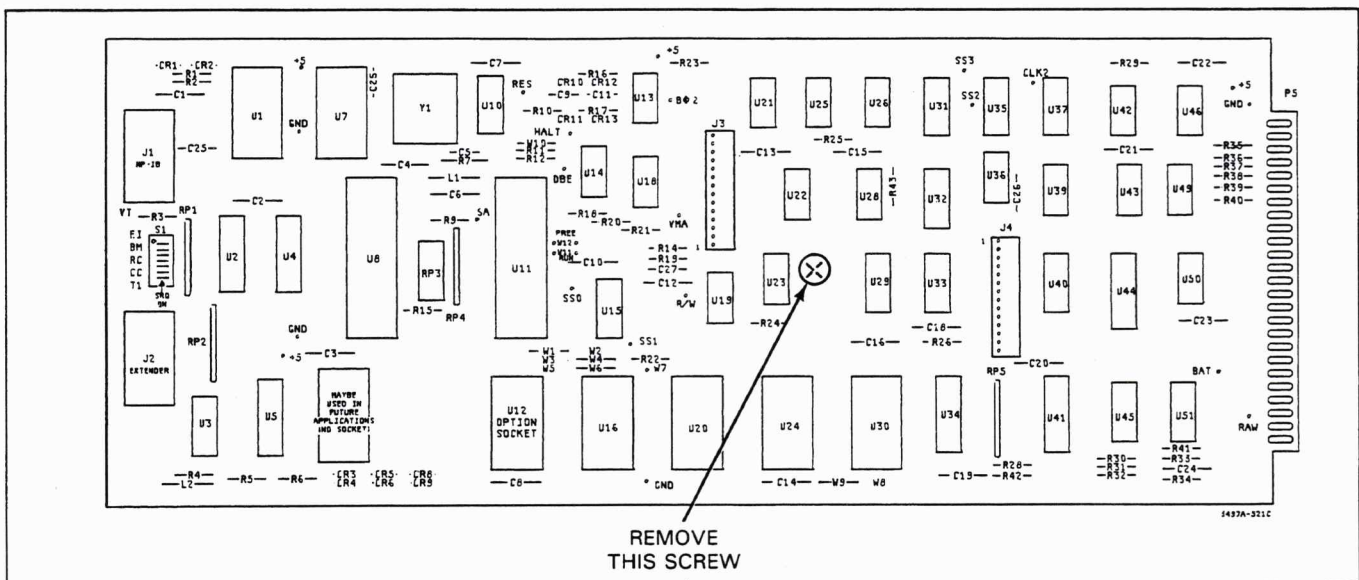

Figure 2-19. Timer/Pacer Board Mounting Screw
a. Refer to Figure 2-19. With the outguard logic board removed, locate and remove the timer/pacer board mounting screw on the outguard logic board. Remove the screw, as shown in Figure 2-19.